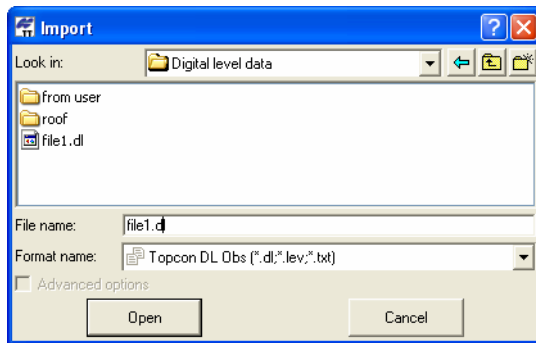

Figure 3-14. Import DL Obs File
4. Click **Open** to import the file (Figure 3-14).